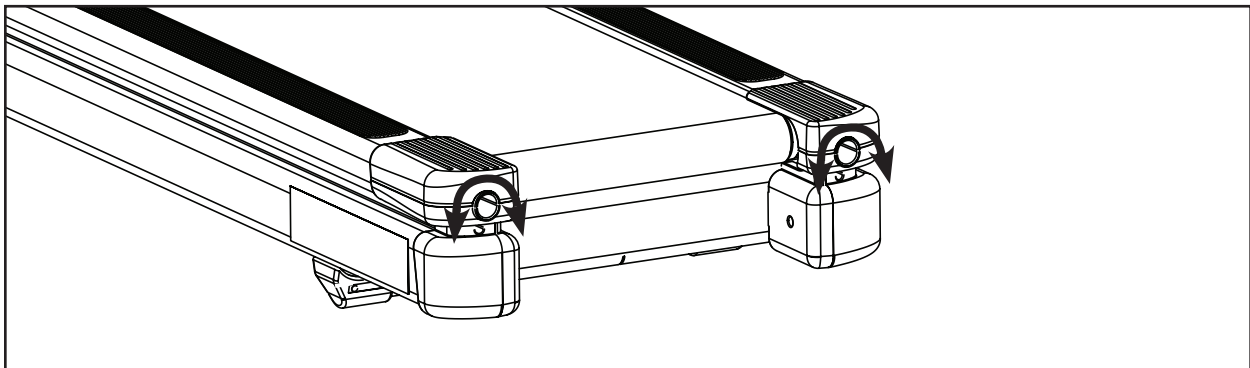

Figure 1
A. Use a 3/4" socket wrench to turn each bolt 1/2 turn clockwise. See Figure 1.